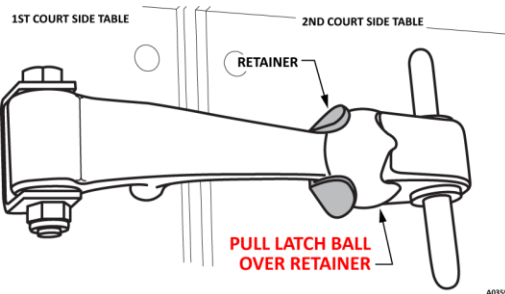

FIGURE 2 — LATCHING MULTIPLE TABLES
- Latched securely. See Figure 2.